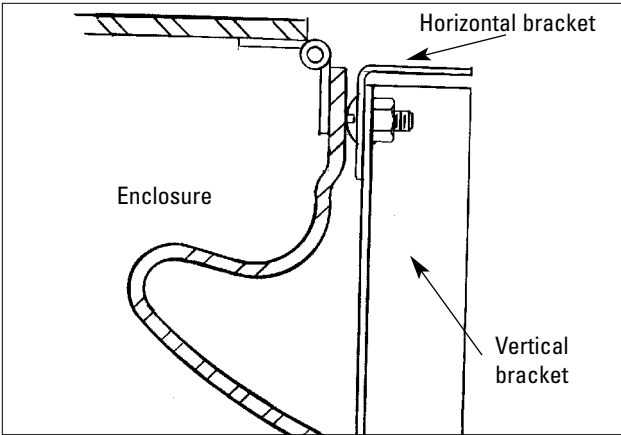

Figure 3 – Mounting horizontal bracket
18. Locate and attach the horizontal mounting bracket to the vertical brackets using 1/4x20 phillips screws and nuts (fig. 3). Do not tighten.